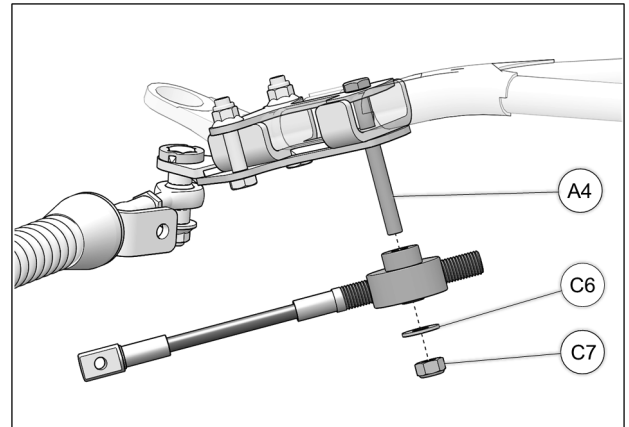

Fig. 23
14. Slip steering limiter cable assembly over M10x100mm bolt (A4) previously installed in step 5. Use supplied washer (C6) and nut (C7) to secure steering limiter assembly in place. Tighten nut to 50 N•m [37 lb•ft]. Refer to Fig. 23